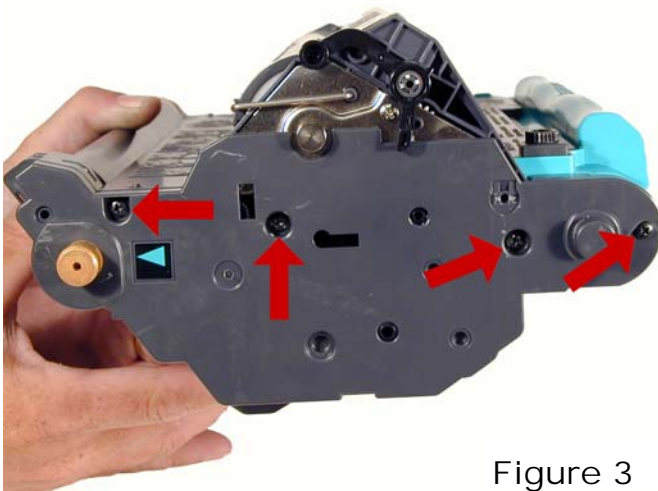

Figure 3
2) On the contact side of the cartridge, remove the 4 screws from the end cap. See **Figure 3**